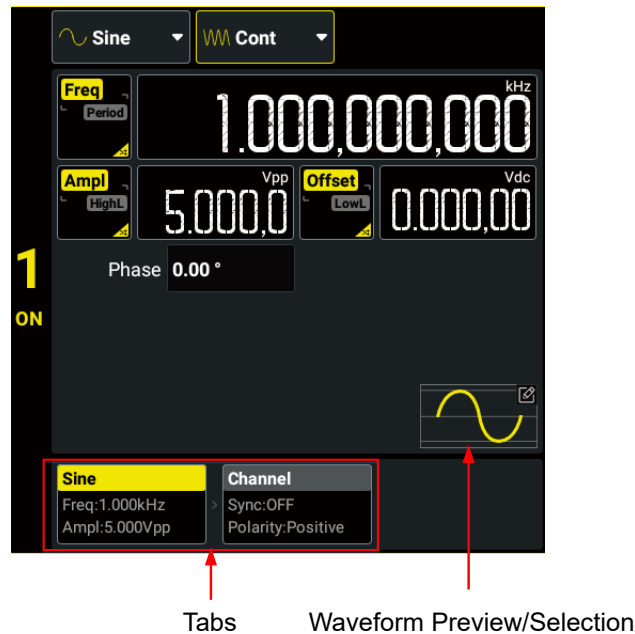

Figure 5.1 Continuous Setting Interface
- In the Continuous Setting Interface (*Figure 5.1*), click or tap the "Wave Type" drop-down button to select "Sine".
- In the Continuous Setting Interface (*Figure 5.1*), click or tap the "Waveform Preview/Selection" area and then select **Sine** in the displayed built-in waveform selection menu.
- In the Continuous Setting Interface (*Figure 5.1*), click or tap the "Wave Type" drop-down button to select "Square".
- In the Continuous Setting Interface (*Figure 5.1*), click or tap the "Waveform Preview/Selection" area and then select **Square** in the displayed built-in waveform selection menu.
You can also click or tap the "Channel" tab in Figure 5.1 interface to access the channel setup interface to configure channel output. For details, please refer to Channel Setup.
- In the Continuous Setting Interface (Figure 5.1), click or tap the "Wave Type" drop-down button to select "Ramp".
- In the Continuous Setting Interface (*Figure 5.1*), click or tap the "Waveform Preview/Selection" area and then select **Ramp** in the displayed built-in waveform selection menu.